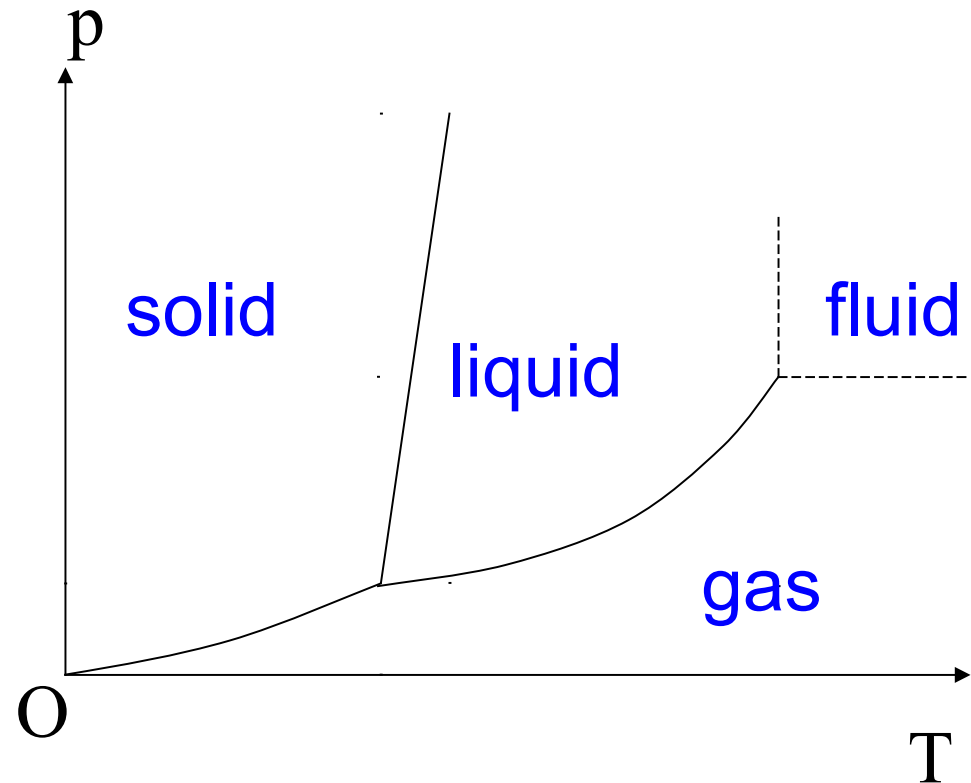

Fig. 2.15
*For one component systems (Fig. 2.15)*